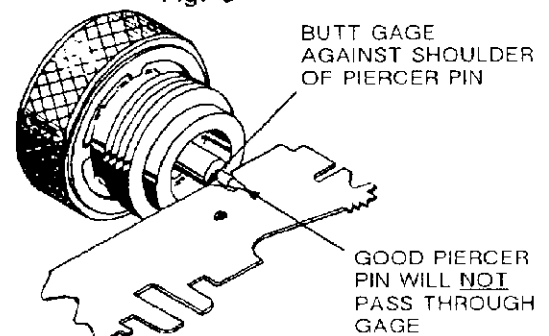

Fig. 6
6. Gage piercer pin length as shown in Figure 6. If pin passes through slot in gage, return the entire breech cap assembly for repair or replacement.